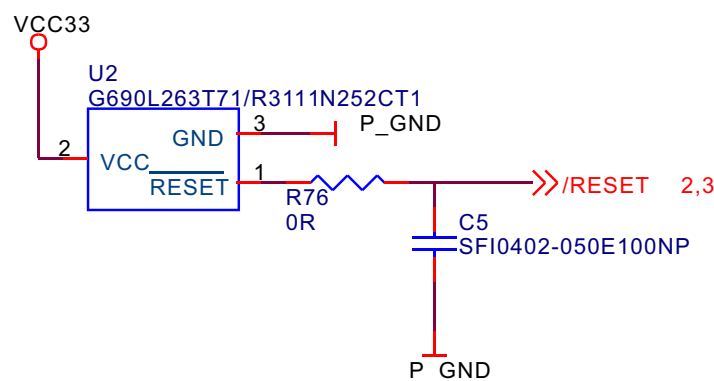

Figure 3.2.11.1 Reset circuitschematic diagram
1. Reset circuit supplies rest signal to PNx0101. Reset circuit schematic diagram is shown in the figure 3.2.11.1: